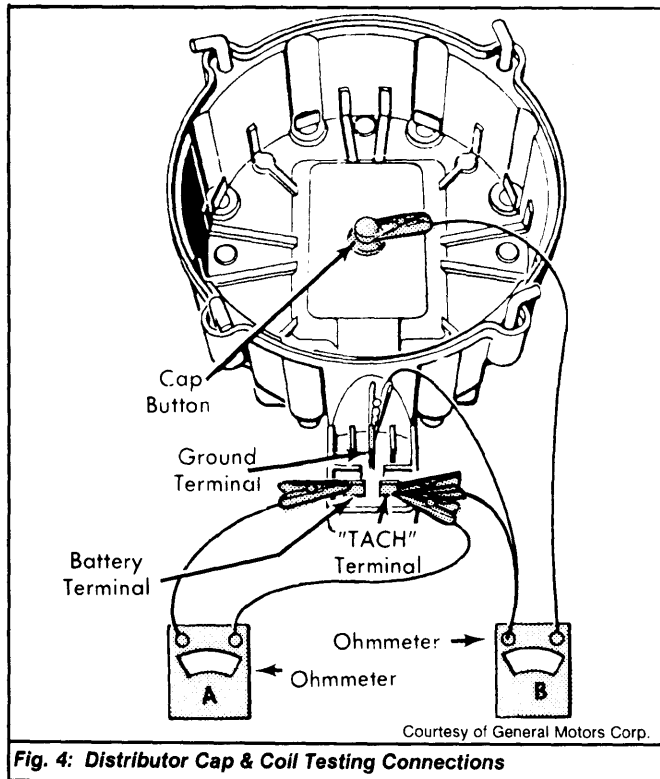

Fig. 4: Distributor Cap & Coil Testing Connections
2) To test coil primary resistance, connect ohmmeter leads to battery terminal and "TACH" terminal on distributor cap. See Fig. 4. Ohmmeter reading should be .4-1.0 ohm. Connect ohmmeter leads to "TACH" terminal and ground. Reading should be infinity. If either reading is not to specification, replace ignition coil.